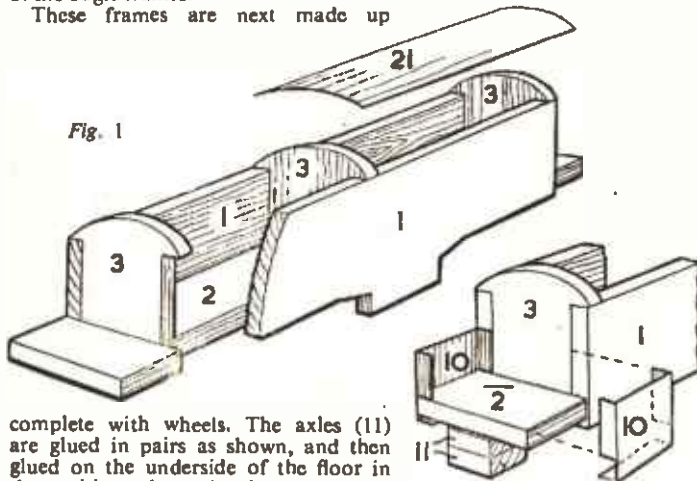

Fig. 1
Begin assembly by gluing the floor (2) between the two sides (1). The position of the floor is shown by dotted lines on the design sheet and in Fig. 1. The three pieces, 3, which form the interior partitions are fixed next, and then the fronts of the cabs can be built up at either end.